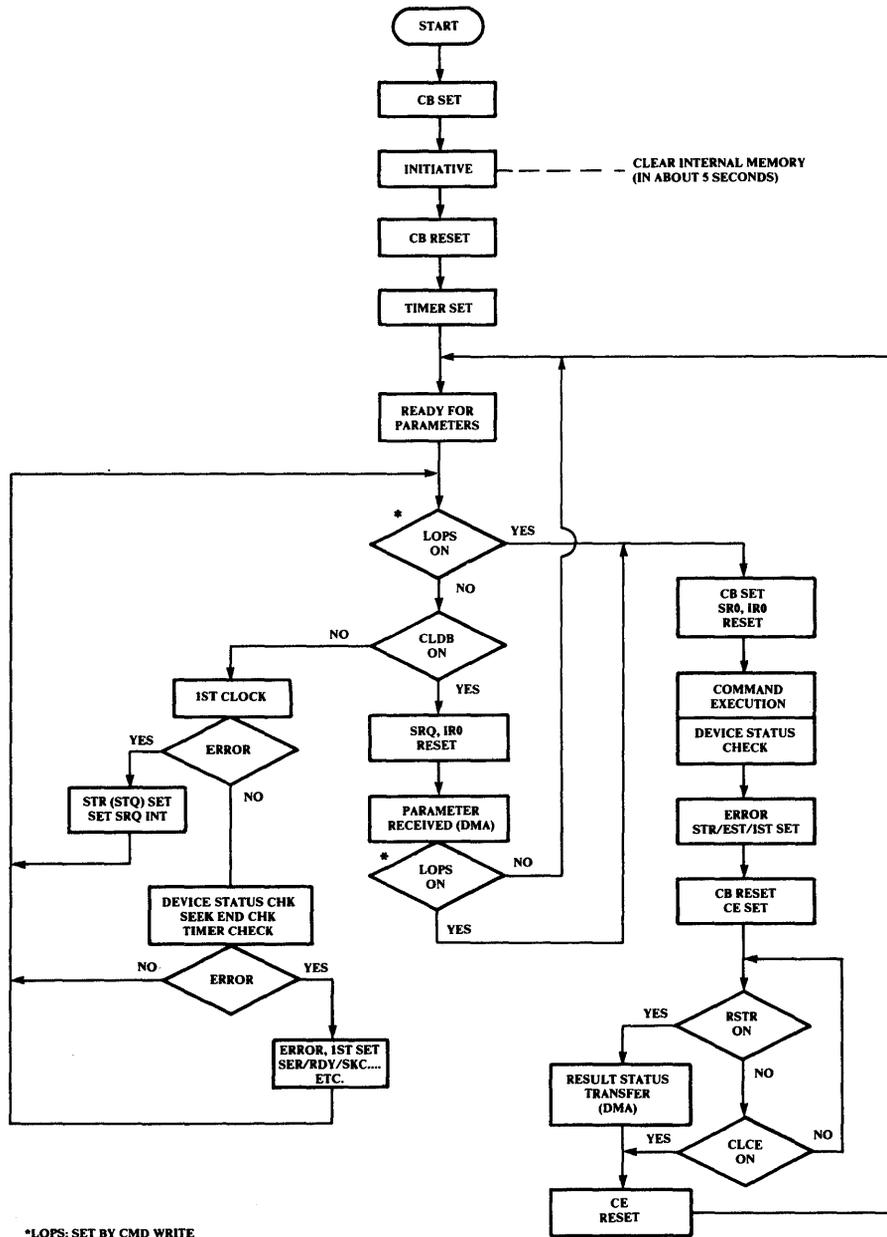

Figure 2-12 FMT Firmware Flowchart
This section highlights the major DKU operations that a user should be aware of to understand the operation of the hard disk. The user should reference Figure 2-12 through 2-17 and Tables 2-12 through 2-18. The figures provide a flowchart of the Firmware operations, the sector format, and the appropriate timing diagrams. The tables provide the command code (Bits D7 through D4) for each command, the command name and resultant parameters, the appropriate parameters for each command, and tabulates the status in the respective status registers. Additional information is provided in Section 2.2.3.
1. A cylinder seek occurs with a Power On Reset operation or with a reset I/O command from the disk adapter (see Figure 2-12).